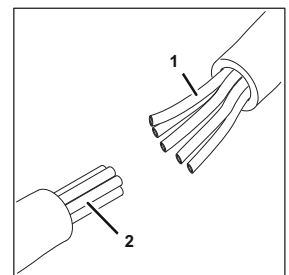

Fig. 13
- Disconnect all tubes (Fig. 13/1) from the python (Fig. 13/2).